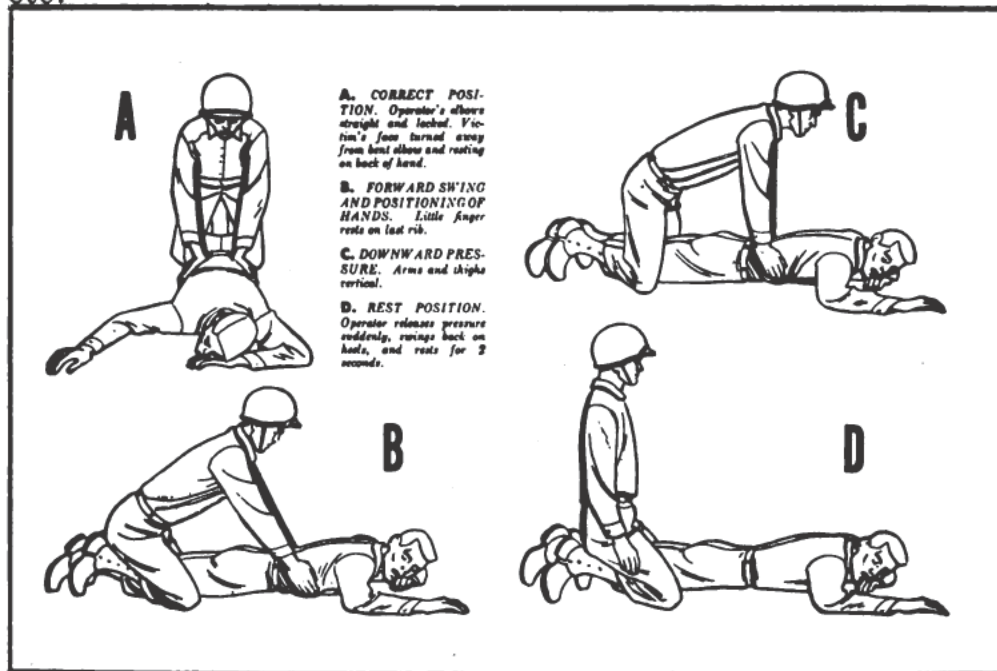

Figure 270.—Artificial respiration.
The prone method of applying artificial respiration is shown in figure 270. Here are the steps to follow:
1. Loosen any tight clothing to permit free circulation. Lay the victim in a prone position, face down. Extend one of his arms directly overhead. Bend the other arm at the elbow so that his head will lie on the back of the palm. Turn the victim's face away from the bent elbow for free breathing space (view A, figure 270.)
- d. Your elbows will be straight and locked (view B, figure 270).
4. Begin the artificial respiration by swinging forward and exerting a downward pressure. (view C, figure 270.) This motion should take 1 second. Release the pressure suddenly, and swing back to a sitting position on your heels. This motion should also take 1 second (view D, figure 270).